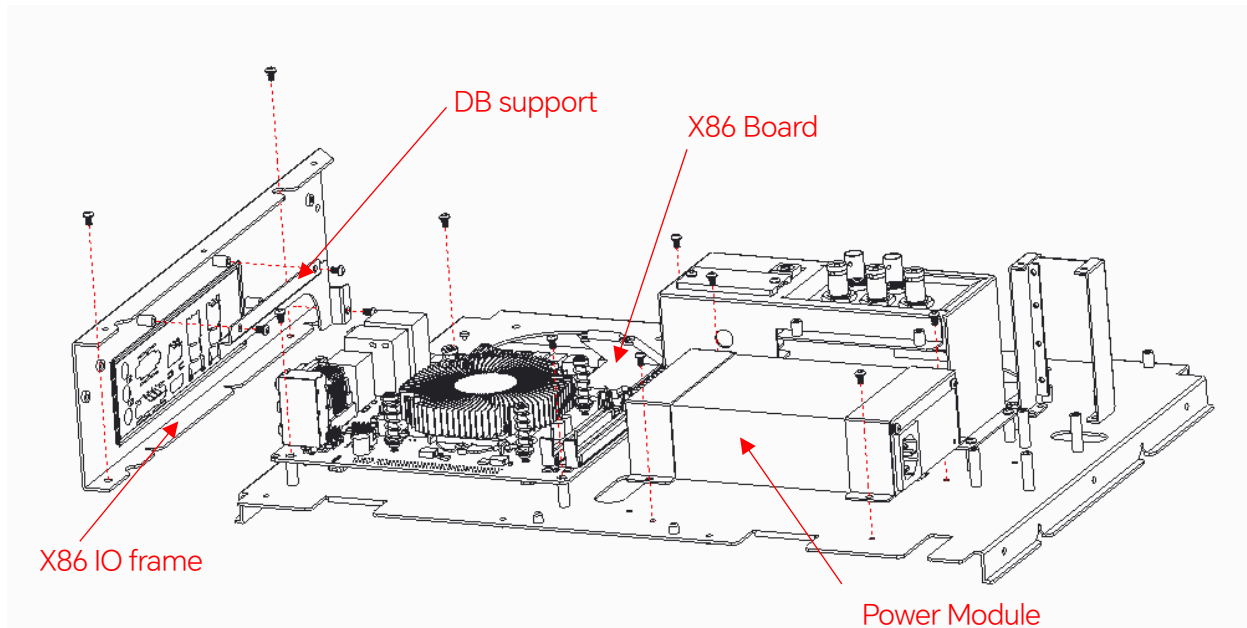

Figure 7 To remove the X86 board and Power Module
1. Connect the selected channel of the oscilloscope to the 9500B, as shown in Figure 7.